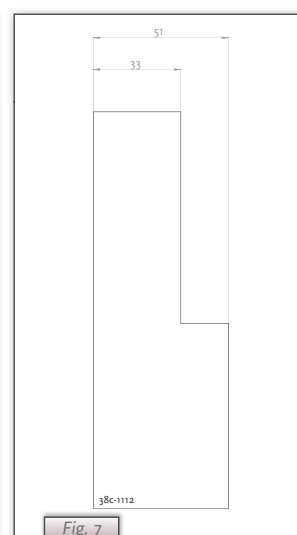

Fig. 7
- ▣▣▣▣ Adjust the distance of the damper using the template provided (see Fig. 7):
6.8.2 Air inlet guides (L)